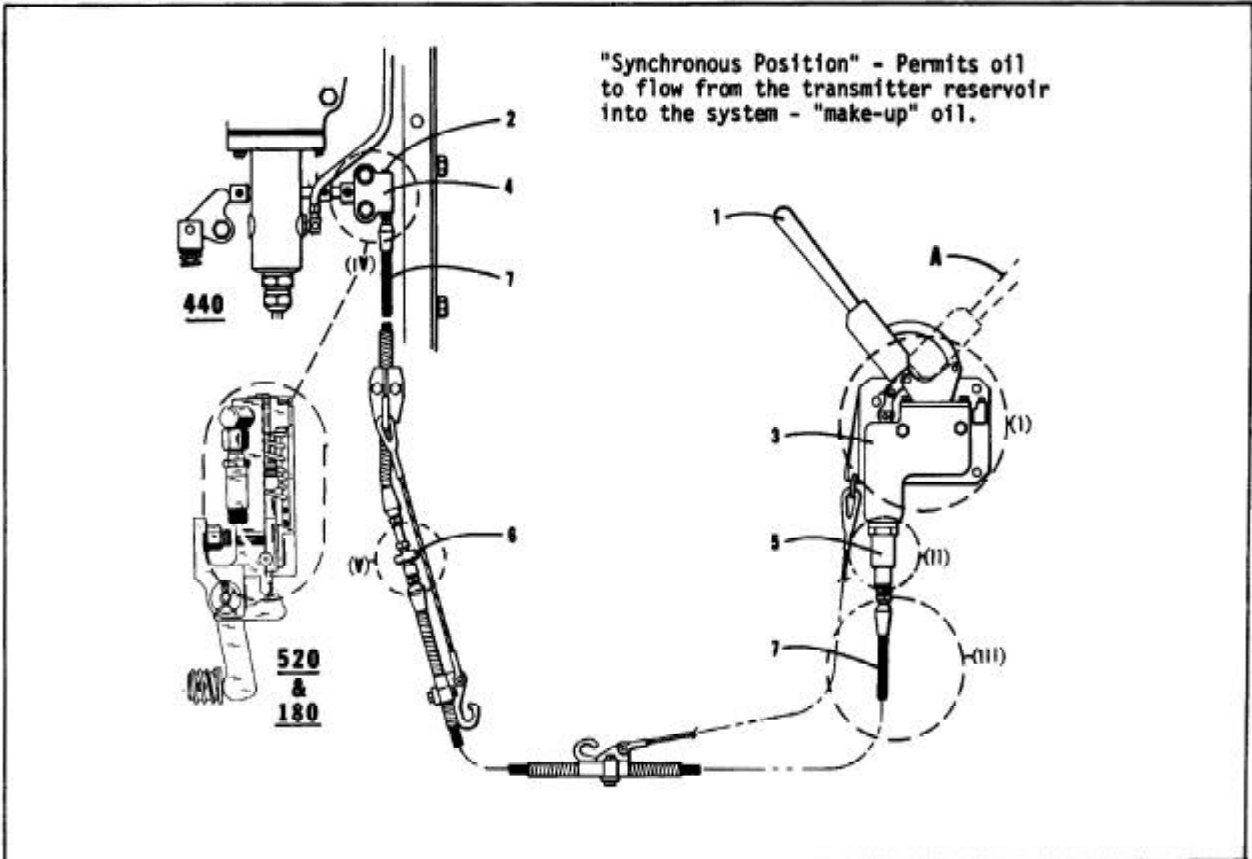

Fig. 7-1
- (I) A transmitter Fig. 7-1, which is the master cylinder for the control system and is usually operated by the machine operator.
By moving the control lever to the "on" position (towards open end of friction quadrant), a column of oil is moved thru the double relief valve thru the hose to the receiver. As the receiver piston moves out of its cylinder, Fig. 7-1, it moves the rack on the fuel pump towards the maximum fuel delivery position.
A self-sealing coupling, Fig. 7-1, is located on the Hammer, permits removal of the hose without losing oil pressure or admitting air into the system while transporting the Hammer. This must be kept screwed tight or operator may not be able to shut Hammer off.
- (e) Remove bleed plug Fig. 7-1, located on top of receiver cylinder.